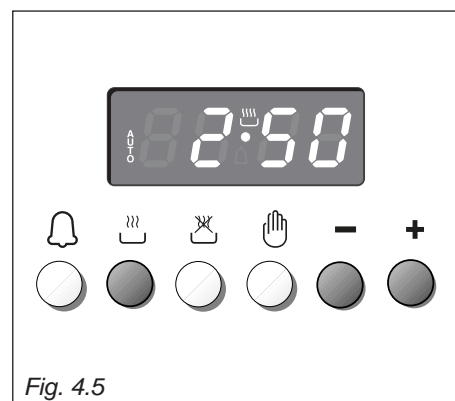

Fig. 4.5
1. Set the length of the cooking time by pushing the 🔥 button and the + button to advance, or — to go back if you have passed the desired time (fig. 4.5).